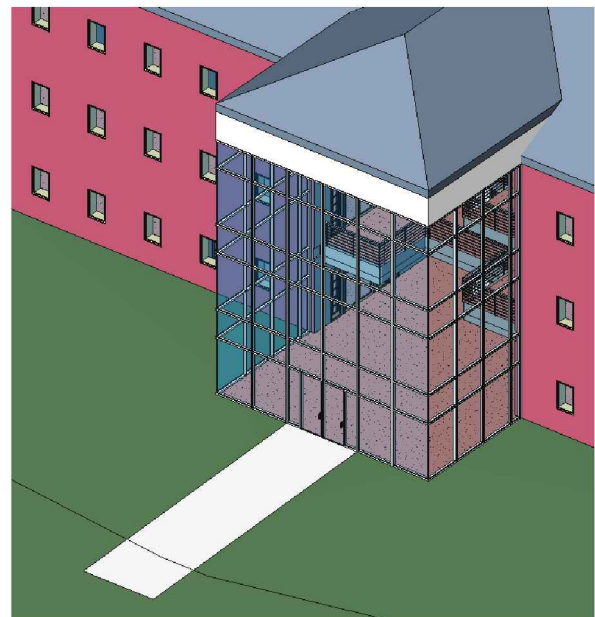

Figure 13-1.10 3D view with sidewalk added
16. Switch to 3D view to see your sidewalk (Figure 13-1.10). Notice the 2D lines sketched in the site plan view have been projected down onto the surface of the 3D site object!